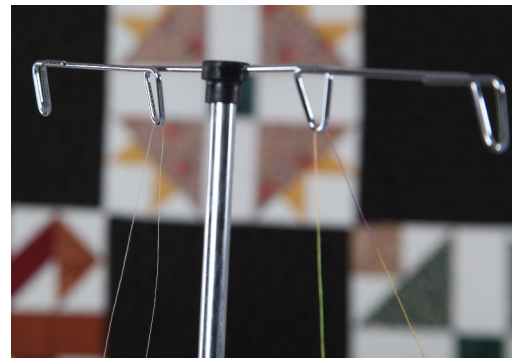

Figure 31
Step 3: Bring the thread up through the guide over the cone of thread. *See figure 31*